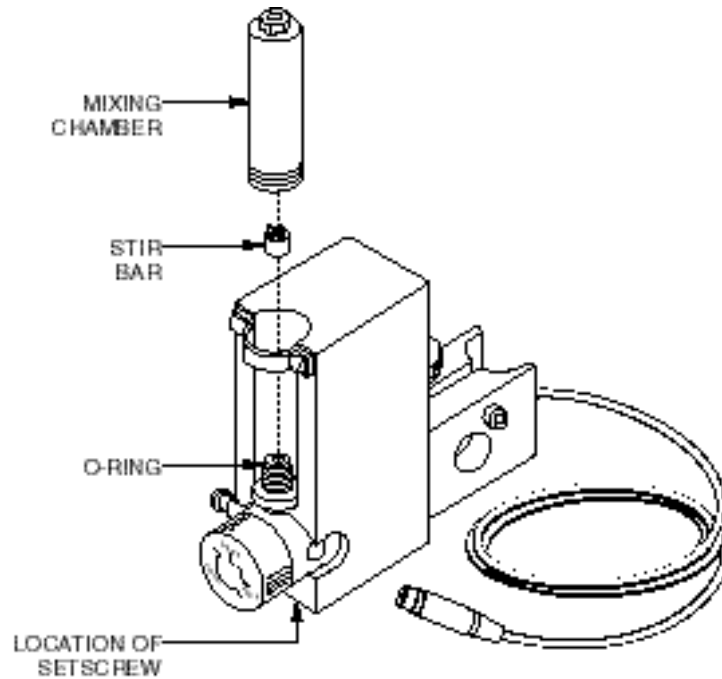

Figure 3. Gradient Mixer Assembly
2. Use a 3/8" socket driver or box wrench to carefully remove the top of the mixer by rotating the top counterclockwise. Refer to Figure 3.